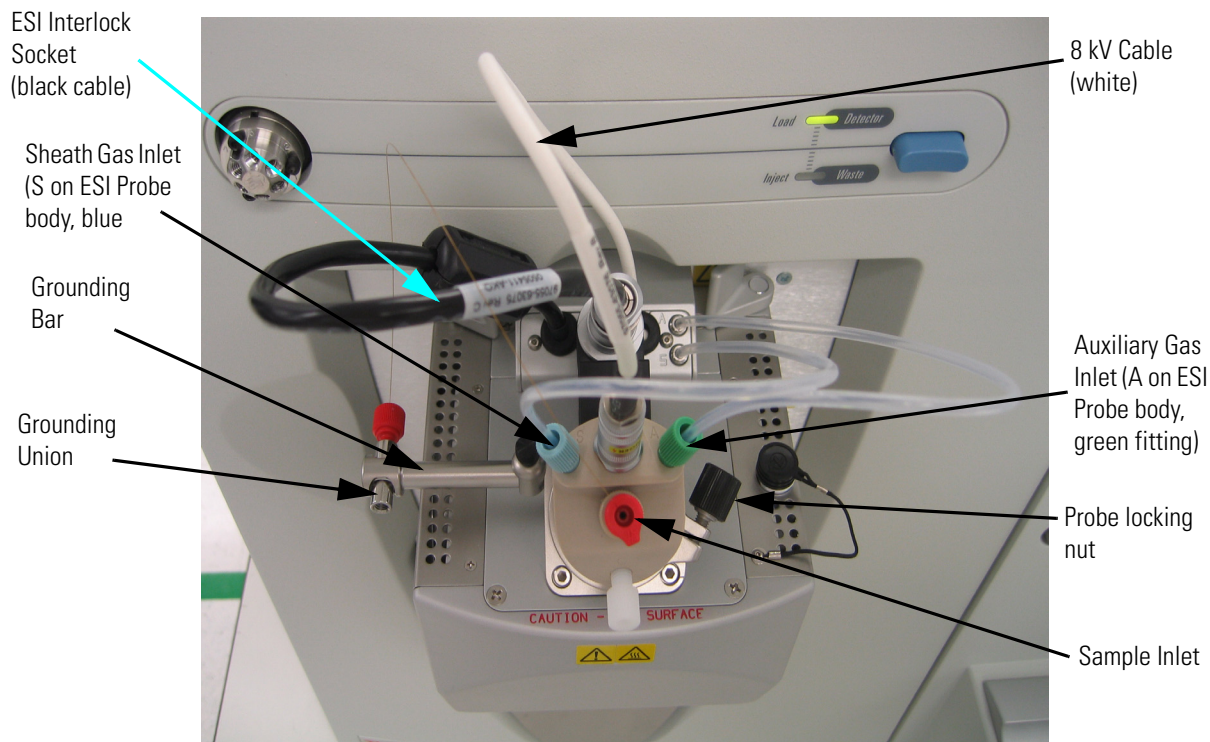

Figure 15. Ion Max-S ion source housing with ESI probe installed
8. Insert the stainless steel ZDV fitting (grounding union) into the grounding bar on the ion source housing. See Figure 15.
9. Connect the sheath gas fitting (blue) to the sheath gas inlet (S) on the probe. (See Figure 15.)
10. Connect the auxiliary gas fitting (green) to the auxiliary gas inlet (A) on the probe. (Figure 15.)